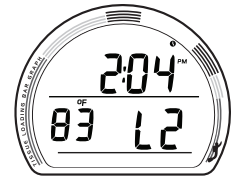

Fig. 106 - FREE SURF ALT 2
**FREE SURF ALT 2**, information includes (Fig. 106):